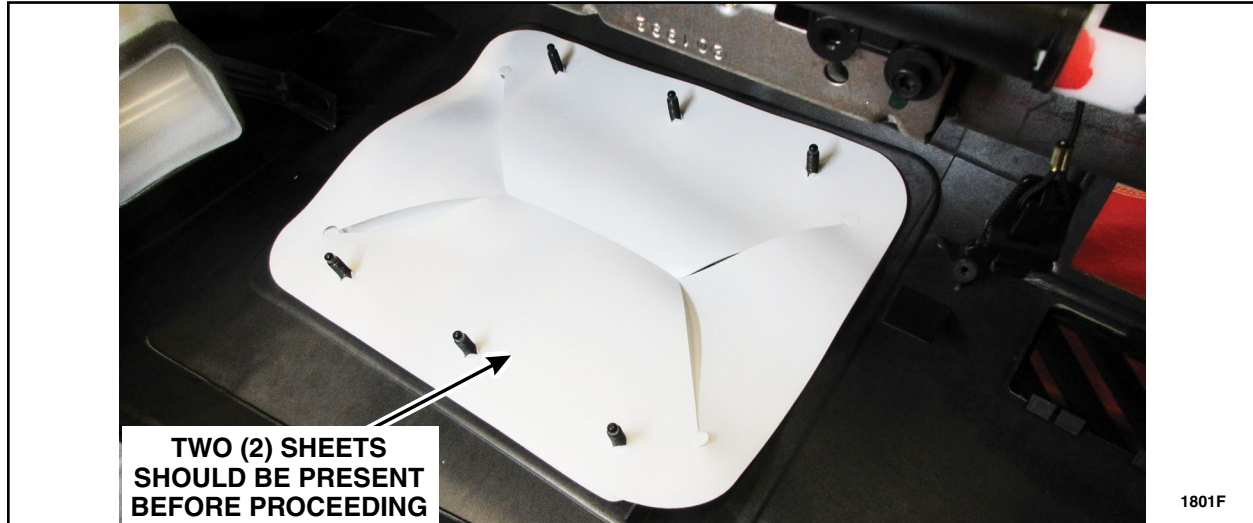

FIGURE 7
7. If no damage is found, clear both sheets of any dirt or debris and **install both sheets** on the airbag mounting bracket studs. See Figure 7.